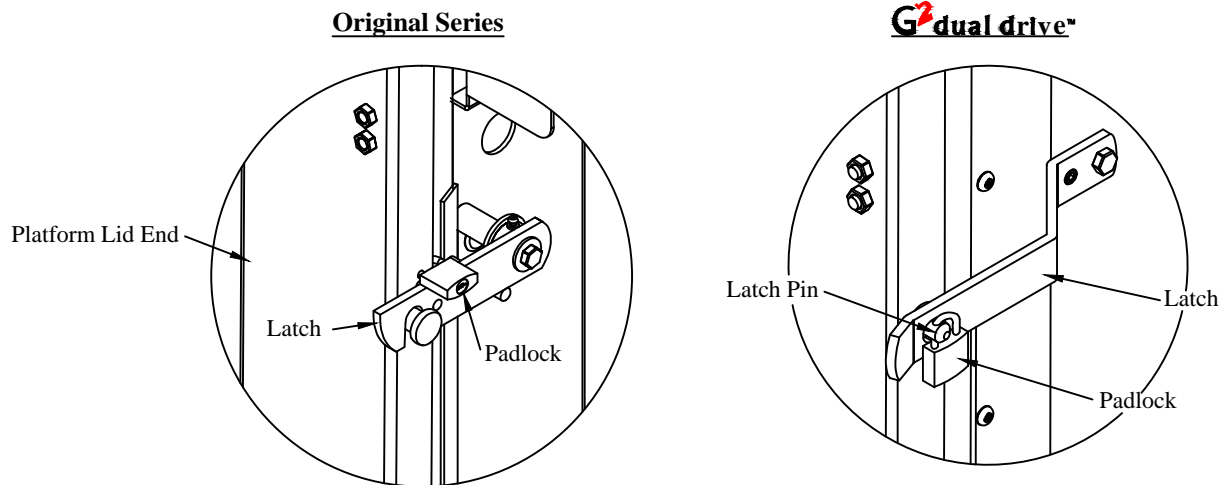

Figure 17: Padlock location.
9. **Lock** the padlock through the hole in the platform or latch pin (Figure 17).